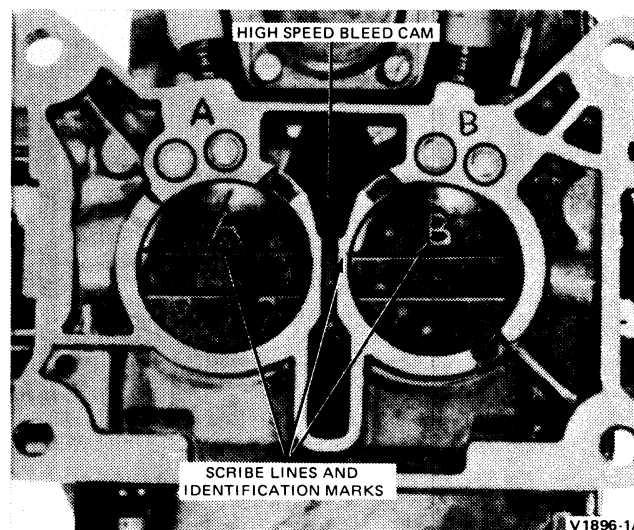

FIG. 31 Scribing Throttle Plates
11. If it is necessary to remove the throttle plates, lightly scribe the throttle plates along the throttle shaft and mark each plate and its corresponding bore with a number or letter for proper installation (Fig. 31). File off the staked portion of the throttle plate screws prior to their removal.
3. Refer to the lines scribed on the throttle plates (Fig. 31) and install the throttle plates in their proper location with the screws snug, but not tight. Always use new screws when installing throttle plates.